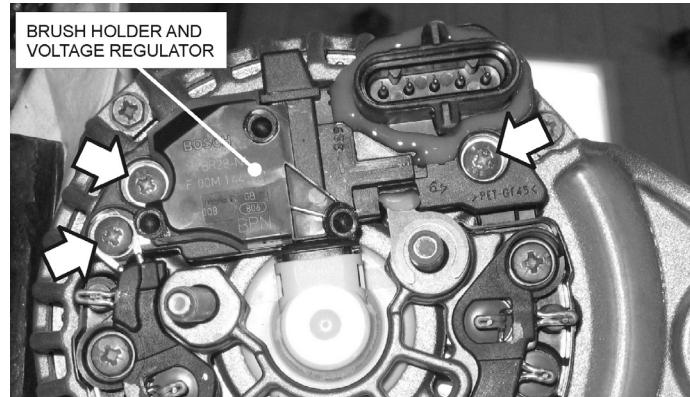

FIGURE 3
- Install the new brush holder and tighten the screws indicated on figure 3.